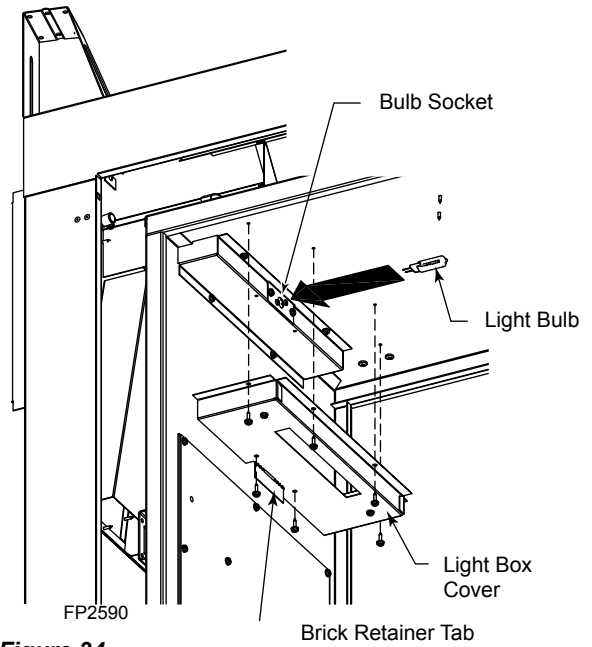

**Figure 33 -
4. Remove glass frame by releasing the three latches located at the top of the firebox. Tilt glass away from the unit, lift glass frame up and away from the unit. *Figure 33*